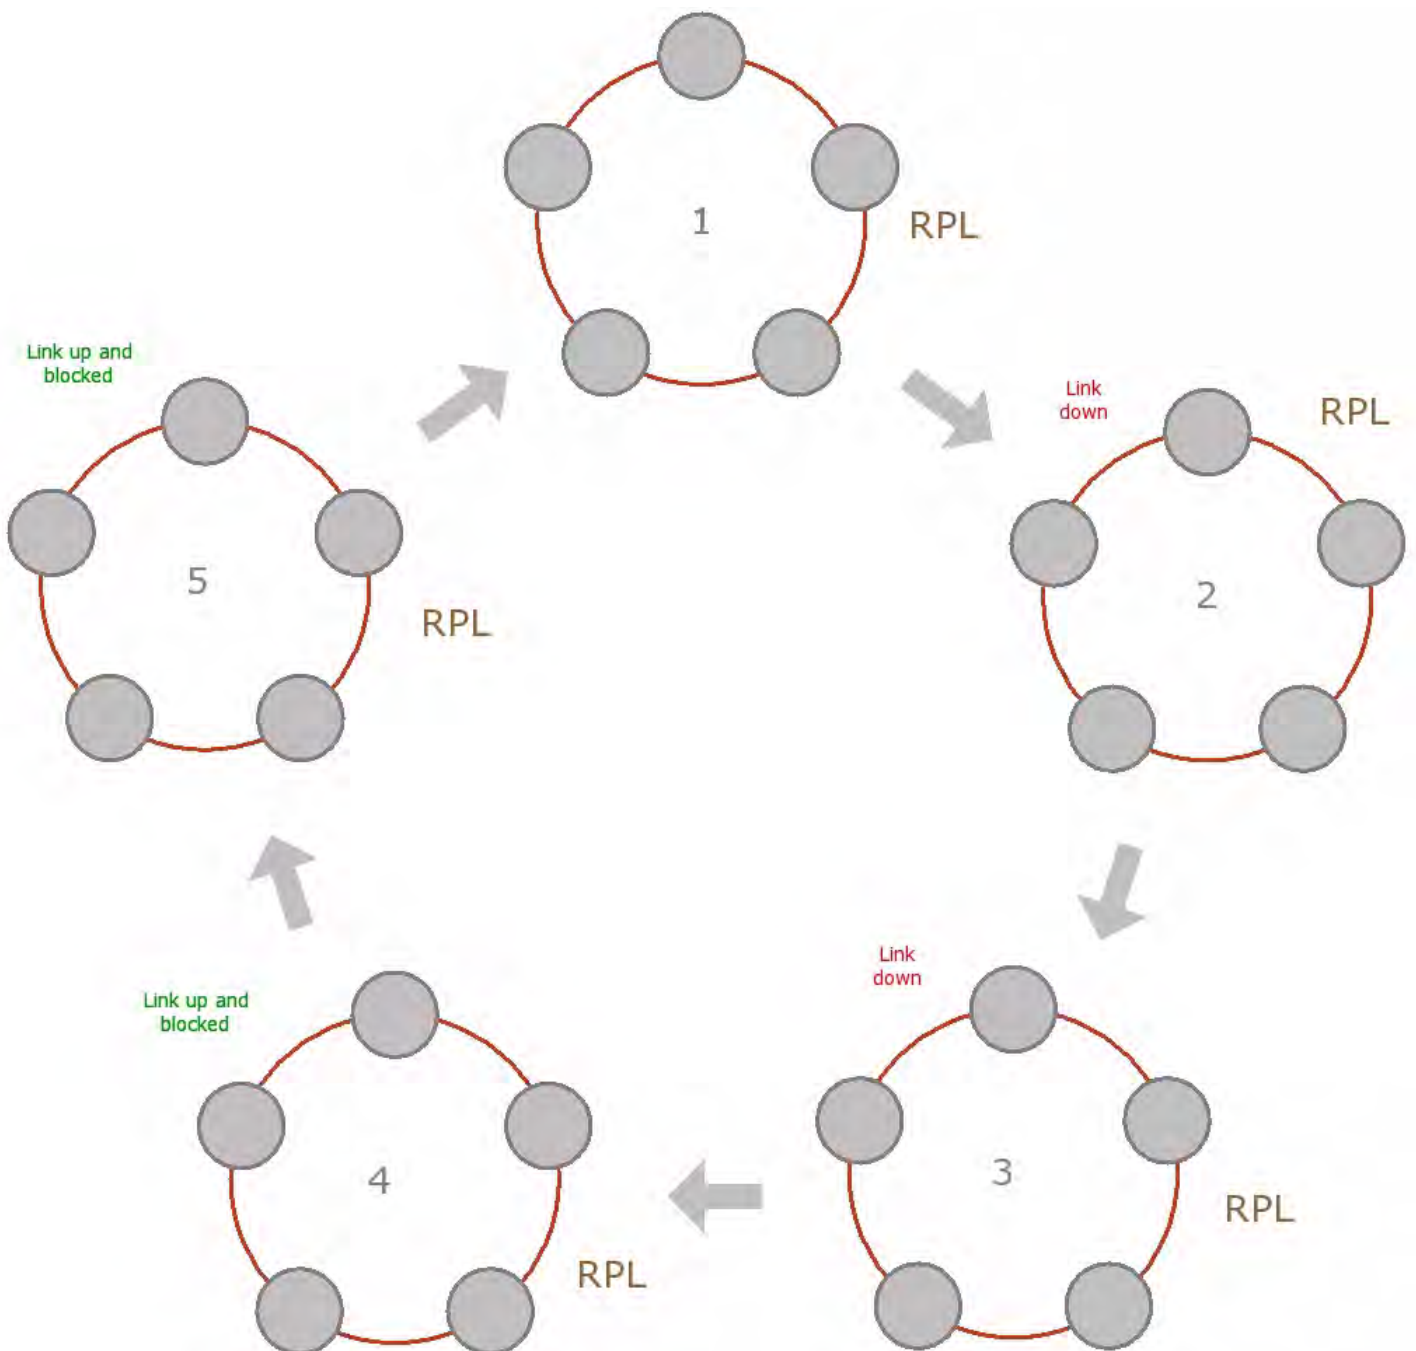

Figure 13-1: Ring Protection mechanism
The steps below follow the numbering in Figure 13-1:
- Under a ring configuration a RADWIN Ring Link that was down and commences recovery, keeps blocking Ethernet traffic. The RPL identifies this situation, blocks itself and then unblocks the other Ring Link. This is the transition from step 4 to 5 in Figure 13-1.